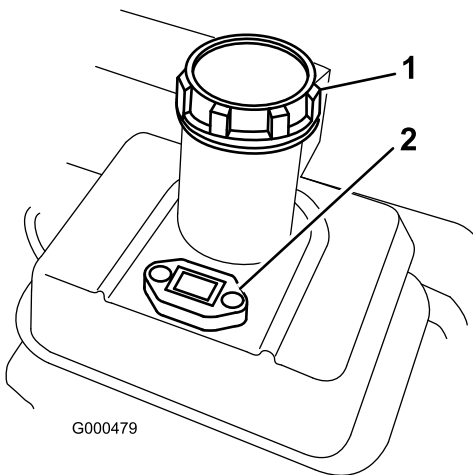

Figure 13
1. Clean around fuel tank cap and remove cap from tank (Figure 13).